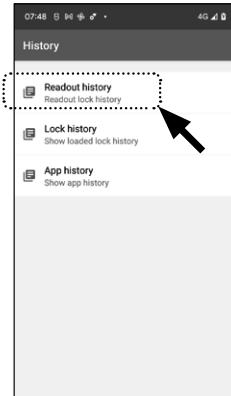

Fig. 90
- 4 Now tap on "Readout history". This will retrieve the history data from the cylinder (Fig. 90).